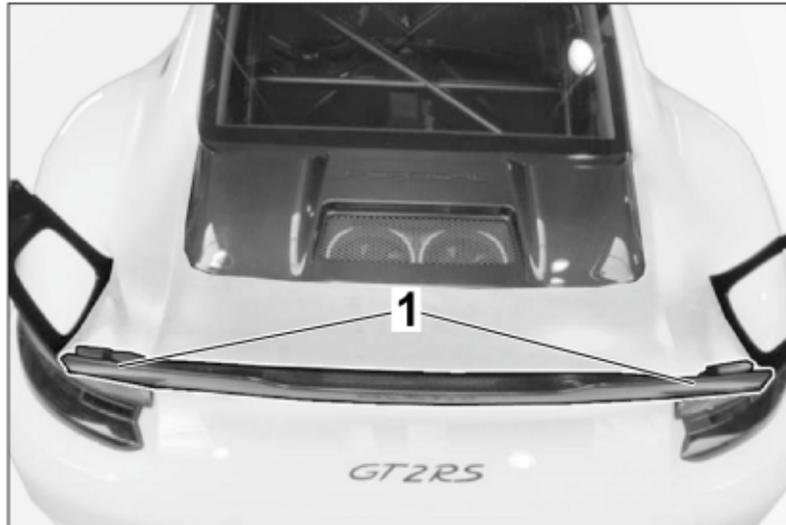

Figure 67
40. – Clean the adhesive areas for the Gurney on the top and back of the trunk lid with isopropanol ⇒ Figure 67 -1-.